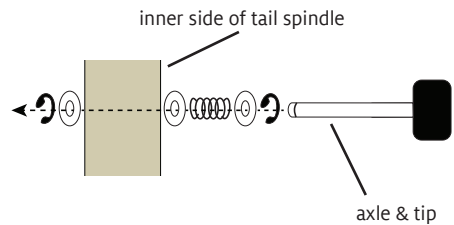

FIGURE 4: INSTALLING THE LIVE CENTER AXLE AND TIP
3. Install the new live center axle and tip: insert the axle through an e-clip, a washer, the spring, and a second washer. Now insert the axle through the tail spindle from its inner side. Add the last washer and secure the axle with the last e-clip, clicking it into the groove at the end of the axle (Figure 4). ■